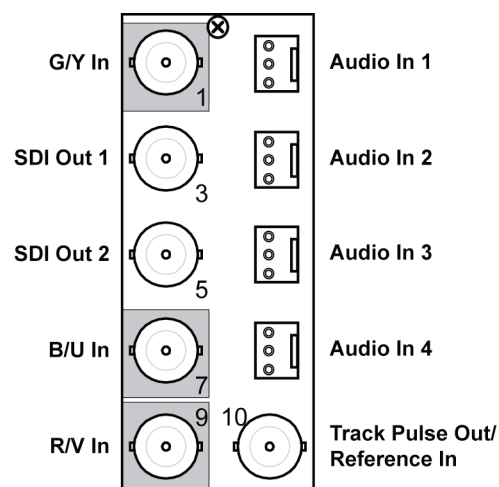

Figure 4. Cable Connections for the R1C-8733 and the R2C-8733 Rear Modules
- **R1C-8733** Rear Module — Each card occupies one slot and provides four audio inputs, two SDI outputs, one tracking pulse output, and a reference input. Connect cables according to **Figure 4**.
- **R2C-8733** Full Rear Module — Each card occupies two slots and provides four audio inputs, two SDI outputs, one tracking pulse output, and a reference input. Connect cables according to **Figure 4**.
2. Downstream SD-SDI devices connect to BNCs **3** through **6** (**SD-SDI Out**). If you are using the **R2S-8733** Split Rear Module, connect to the required BNCs as shown in **Figure 4**.
The **R1C-8733** and **R2C-8733** Rear Modules provide four audio terminal blocks with removable connectors for Audio In 1, 2, 3, and 4 (refer to **Figure 4** for cable designations). Each connector has locations for the positive, negative, and grounded wires of a balanced analog audio cable.